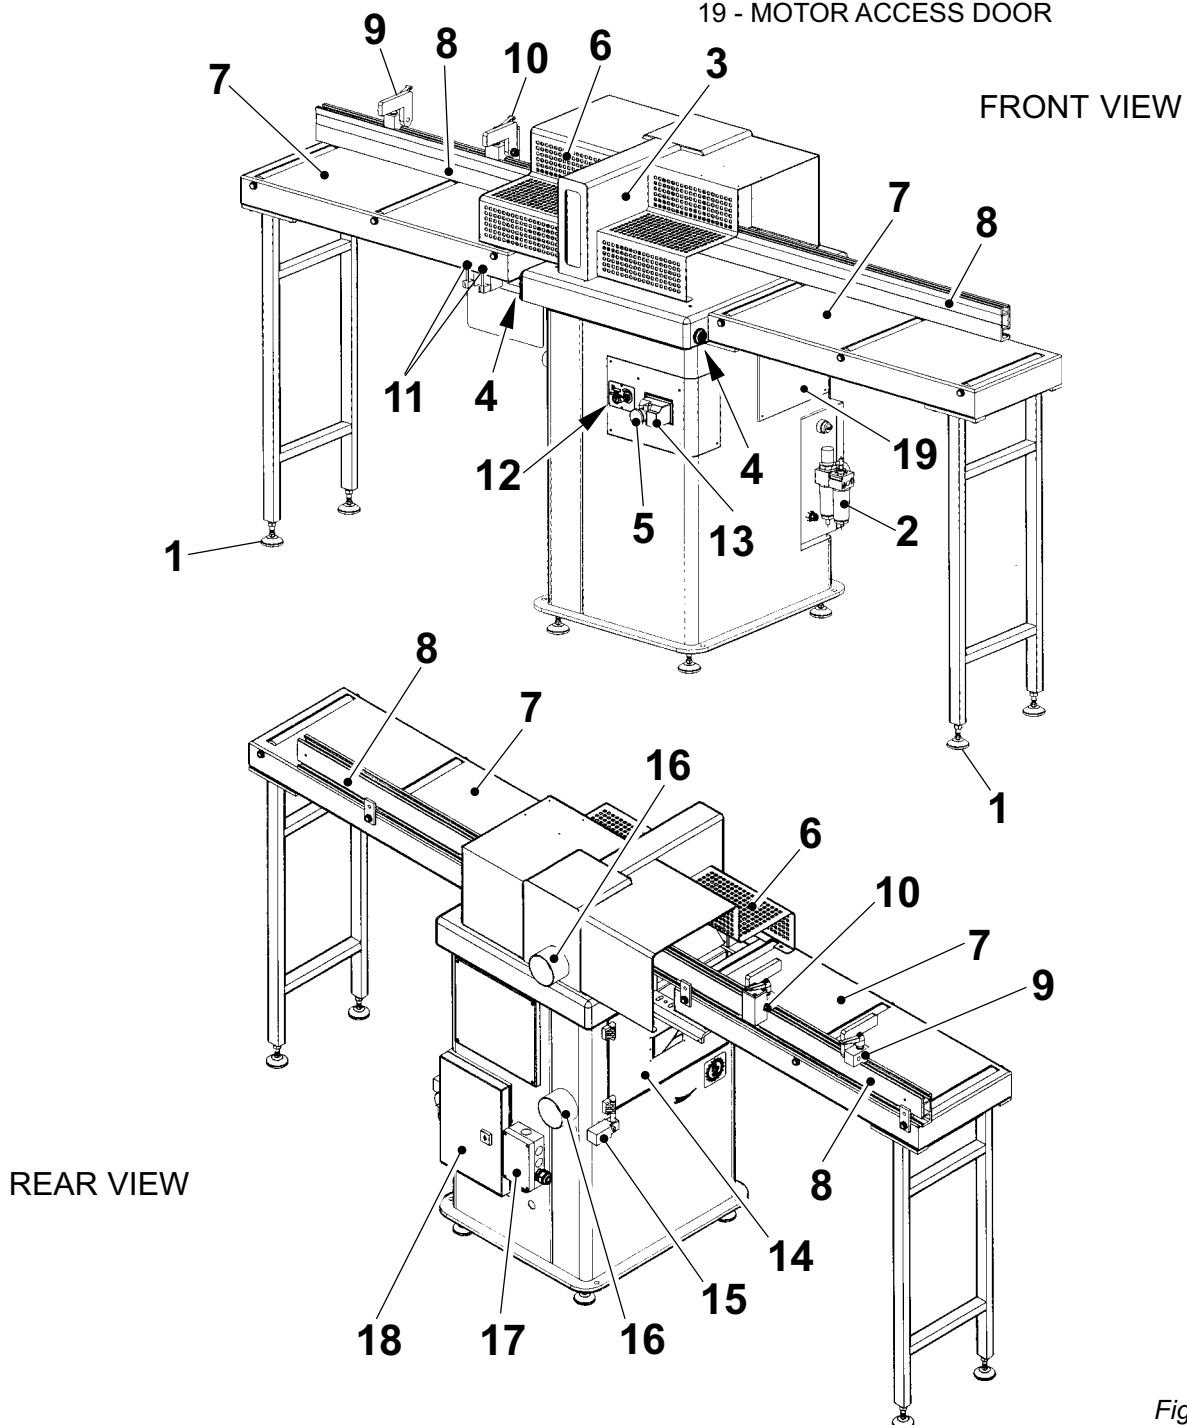

Fig. 2-2
2.8 MAIN PARTS OF THE MACHINE (FIG. 2-2)